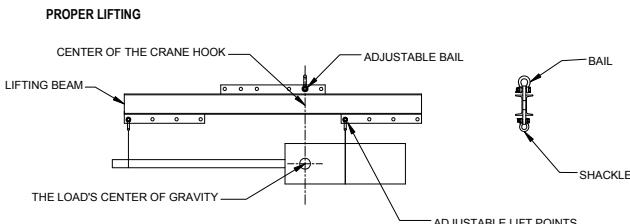

Figure 1
5. **See Figure 1**, the Lifting Beam is level/horizontal, proper lifting position.